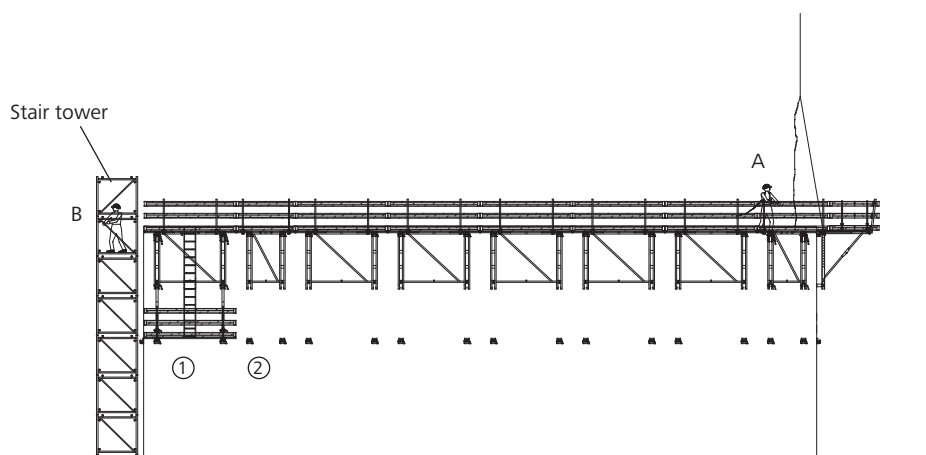

Fig. 31.1
11. Steps 8 to 10 are repeated until all platforms have been moved to the next level (Fig. 31.1).
12. When the crane has been attached to last platform KAB and this has been unlocked, Person B climbs off the platform via the stair tower (wall opening / means of conveying personal) (Fig. 31.1).
13. Person A secures the last platform after it has been suspended, removes the crane rope (Fig. 31.1) and then also climbs off the platform via the stair tower (wall opening / means of conveying personal).